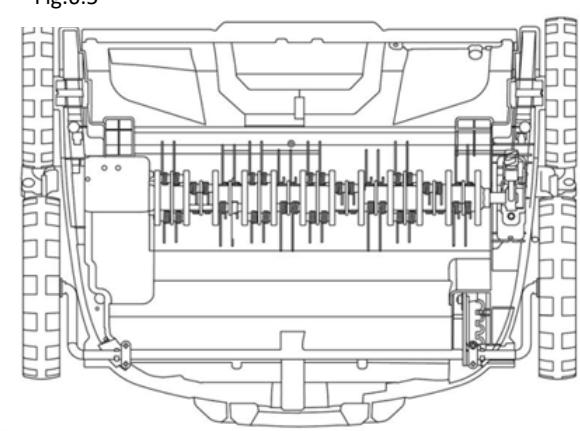

Fig.7
- Attach the cable holder (11) to the top handlebar on the switch side (Fig. 7).
Suggestions Power connection (Fig. 7)
Plug the power plug of the device's connection cable into the combined switch/plug (see Fig. 7). Secure the cable with the cable bracket. The loop of the power cord must be long enough to allow the cable holder to slide from side to side.